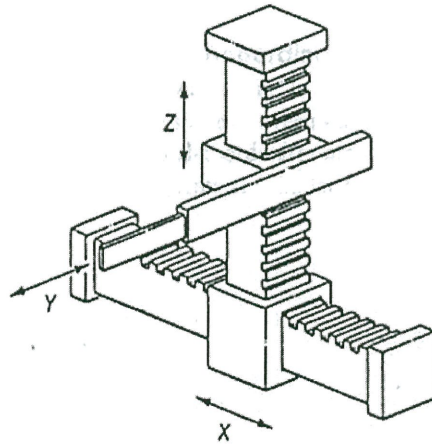

FIGURE Q1 (e)
- (b) Two classifications of the robots are according to the types of control and coordinate systems. Explain these **two** (2) classifications. (6 marks)
- (c) State **two** (2) **advantages** and **two** (2) **disadvantages** of a revolute manipulator. (4 marks)
- (e) Draw the approximate workspace for cylindrical configuration as shown in **Figure Q1 (e)**. (4 marks)